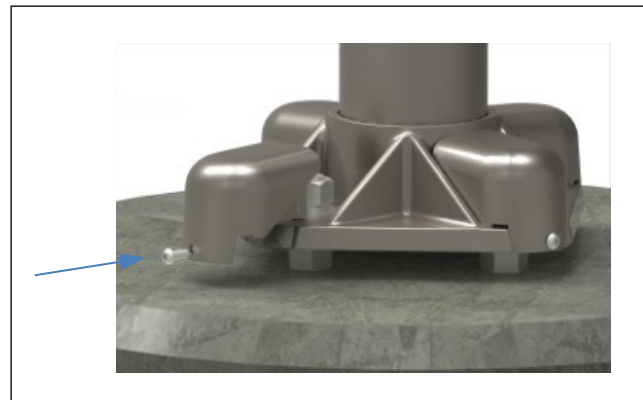

Fig. 5 – Install nut covers
1. Install nut covers (shipped with pole) as shown in Fig. 5.